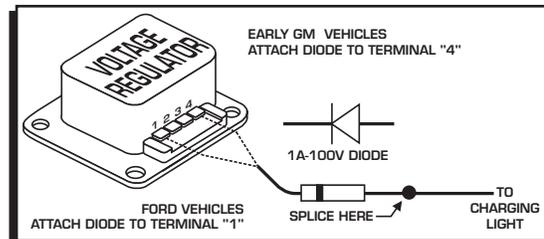

Figure 8 Installing the diode to a GM or Ford Vehicle.
**Early Ford and GM:** To solve the Run-On problem, a Diode is supplied with the MSD in the parts bag. By installing this Diode in-line of the wire that goes to the Charging indicator, the voltage is kept from entering the MSD. Figure 8 shows the proper installation for early Ford and GM vehicles.
**Note:** Diodes are used to allow voltage to flow only one way. Make sure the Diode is installed facing the proper direction (as shown in Figure 8).